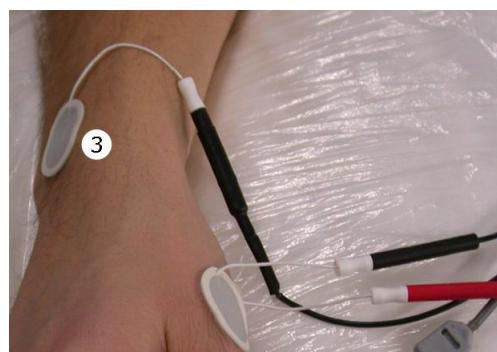

Fig. 22. Attaching the GND electrode
4. Attach the grounding GND electrode over bone or other area of the body with no muscle (see item 3 in Figure 22).